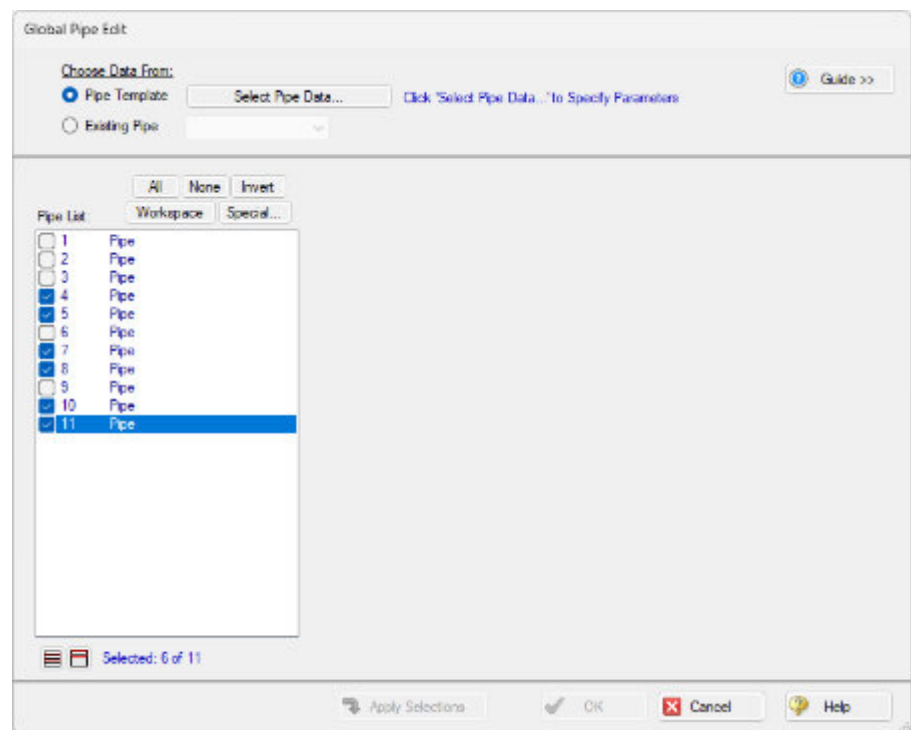

Figure 3.2 Global Pipe Edit window
- ▶ **Select Pipes P4, P5, P7, P8, P10, and P11 from the list of pipes** as shown in Figure 3.2.